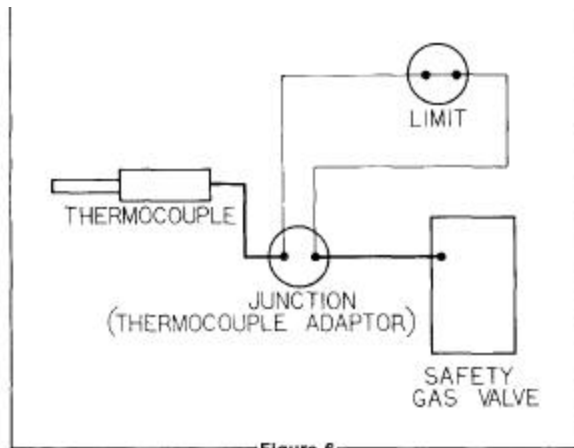

Figure 6
- 4-Open circuit - check for continuity across limit switch. The switch should be closed. Replace if found to be defective. (See Figure 6 for millivolt circuit.)